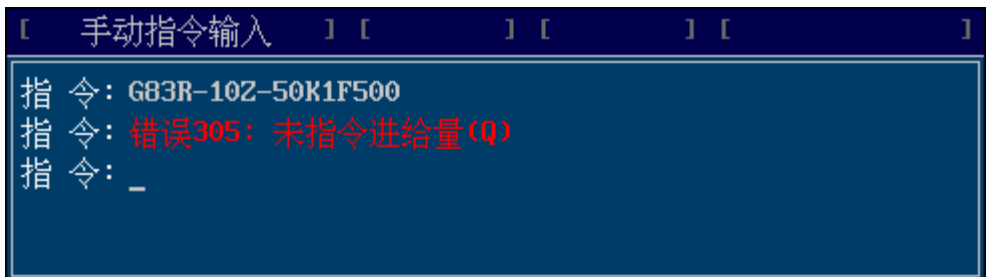

Figure 3-17 MDI command's syntax error
- 3) Input a command into the MDI window and press the <Enter> key to confirm the input. Then system will verify the command. If there is no errors displayed, which indicates the input command has been through the syntax checking and can be executed. If system shows some errors which means the input command is incorrect, you need input again. The system state of reporting error is as figure 3-17 shown "error NO. 305: no feedrate specified (Q)", the NO. 305 is the sequence number of the error, which you can depend on to see the programming manual about the mistake details;